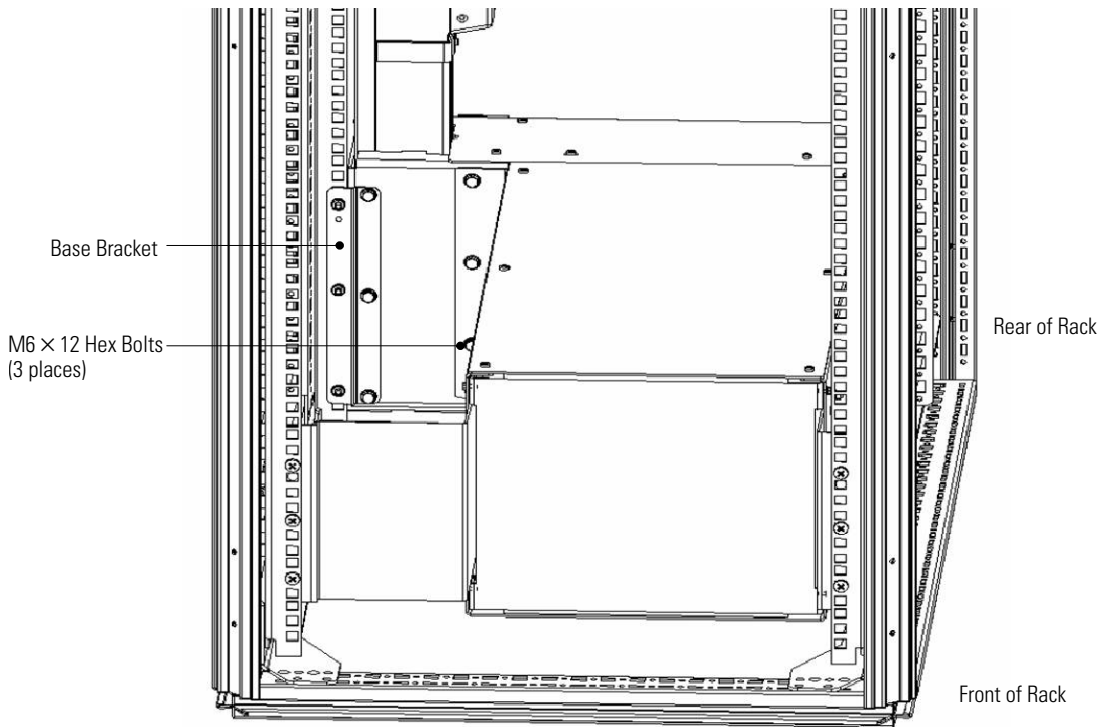

Figure 5. Bar Base Installation
10. Note the orientation of the base bracket installed on the bar for later re-installation (see Figure 5). Remove and retain the base bracket and hardware.
12. Secure the bar to the wireway with three M6 × 12 hex bolts. Install the bolts from the **front** of the rack. See Figure 5. Torque the bolts to 5.1 ± 0.8 Nm (45 ± 7 lb in).
13. Reinstall the base bracket removed in Step 10. Install the bolts from the **front** of the rack. See Figure 5. Torque the bolts to 5.1 ± 0.8 Nm (45 ± 7 lb in).